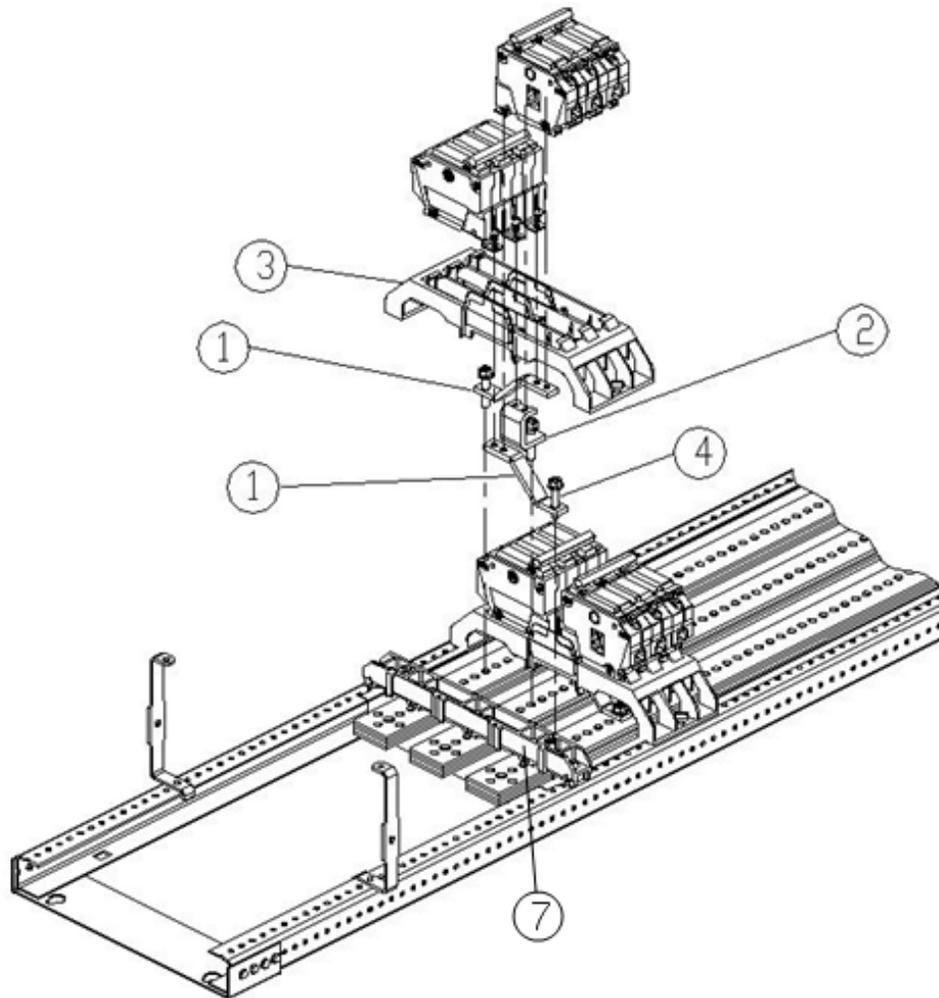

Figure 1. Installation of a THQB circuit breaker kit on interior, catalog number ASPP6QB12D, into an A-Series® II Panelboards.
Use the following procedure to install a THQB circuit breaker kit. Call-out numbers in the illustrations and numbers in brackets in the text refer to the Item Numbers in Table 1. Installation of a three-pole kit is illustrated in Figure 1.
5. Place the breaker as shown in fig.1 such that breaker strap hole aligns with breaker mounting strap tapped hole and other end of breaker snaps with 3X base lancing slot provided and then tighten terminal screws completely with 27-36 in-lb.